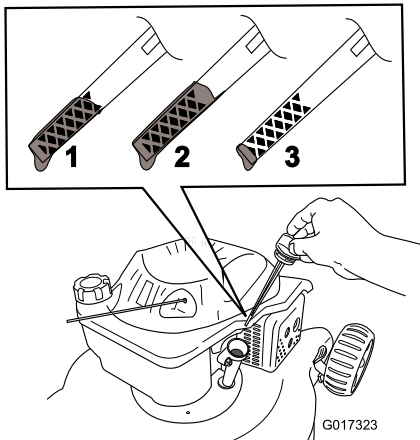

Figure 10
2. Remove the dipstick (Figure 10).
3. **Slowly** pour oil into the oil fill tube until the oil level reaches the **Full** mark on the dipstick (Figure 10). **Do not overfill.** Max. fill: 0.59 l (20 fl oz), type: SAE 30 or SAE 10W-30 detergent oil with an API service classification of SF, SG, SH, SJ, SL, or higher.
1. Remove the dipstick, wipe it clean, and fully install the dipstick (Figure 10).
2. Remove the dipstick and check the oil level (Figure 10). If the oil level is below the **Add** mark on the dipstick, **slowly** pour oil into the oil fill tube to raise the oil level to the **Full** mark on the dipstick. **Do not overfill.** (Max. fill: 0.59 l (20 fl oz), type: SAE 30 or SAE 10W-30 detergent oil with an API service classification of SF, SG, SH, SJ, SL, or higher.)